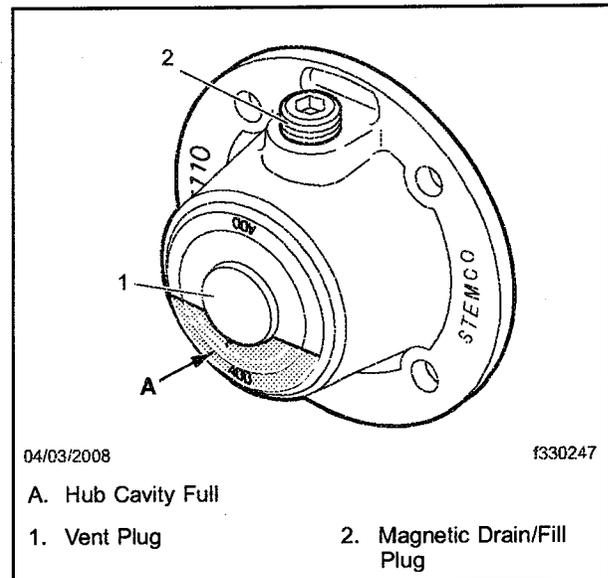

Fig. 12, Stemco Hub Cap
12.3 Add enough oil (about 2 oz or 60 mL) to the hub to bring the level up to the bottom of the vent cap. See **Fig. 12**.
12.5 Once the oil level has stabilized in the hub cap, check the level in the window and, if needed, add enough oil to bring the level up to the bottom of the vent plug. See **Fig. 12**.